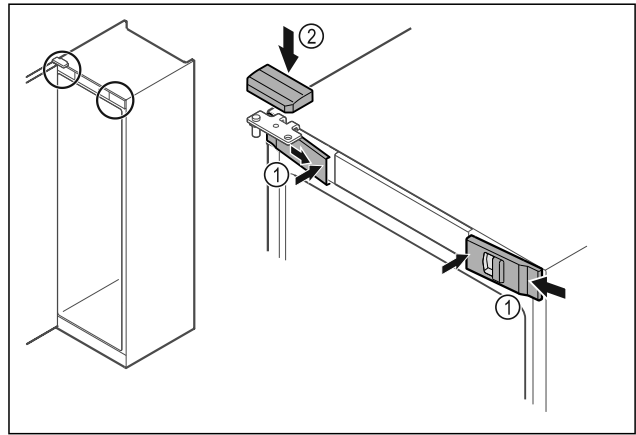

Fig. 48 *
- Hook in the front covers Fig. 48 (1) on the side and snap them into place on the inside.*
- Snap on the top cover Fig. 48 (2) from above.*